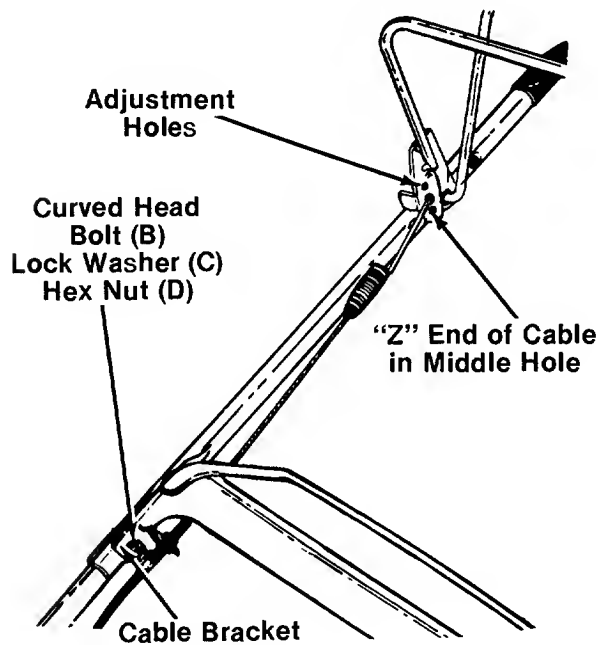

FIGURE 5.
6. Route the clutch cable under the lower handle. Hook the "Z" end of the clutch cable into the middle adjustment hole in the clutch control handle. See figure 5.
7. Place curved head bolt through right side of upper and lower handles and handle panel. Place the clutch cable bracket on the curved head bolt. See figure 5. Secure with lock washer (C) and hex nut (D).